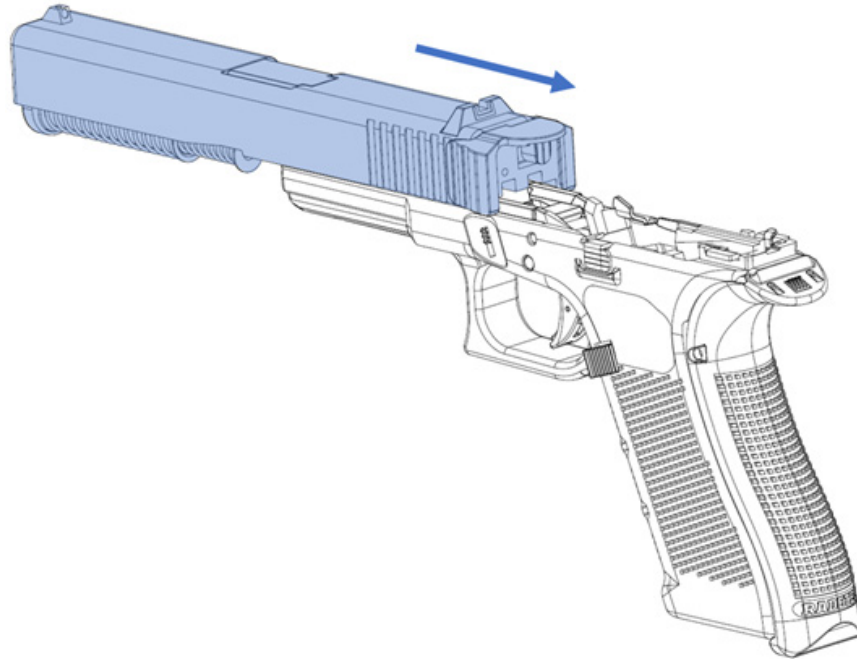

Figure 72: Mounting direction of the slide onto the frame.
1. Mount the slide with the RCD assembly onto the frame which contains the Smart magazine assembly. Pull the trigger beforehand to facilitate mounting the slide. Slide it along the frame's rails until the slide is fully mounted (Figure 72).